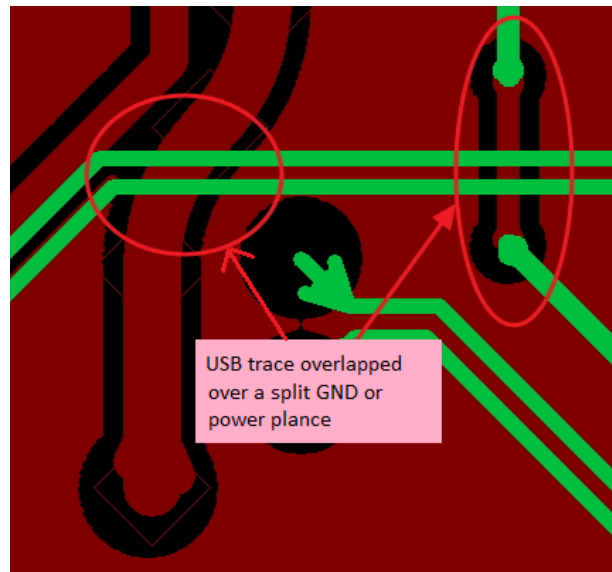

Figure 2
- Never route USB3.0 differential traces over the split ground and power planes as figure 2. For a worse example as Figure 2, USB3.0 differential pair is routed on the top layer of PCB and overlapped a split ground plane with other signal traces on the second layer(for 4-layer PCB) or the bottom layer(for 2-layer PCB) of PCB.